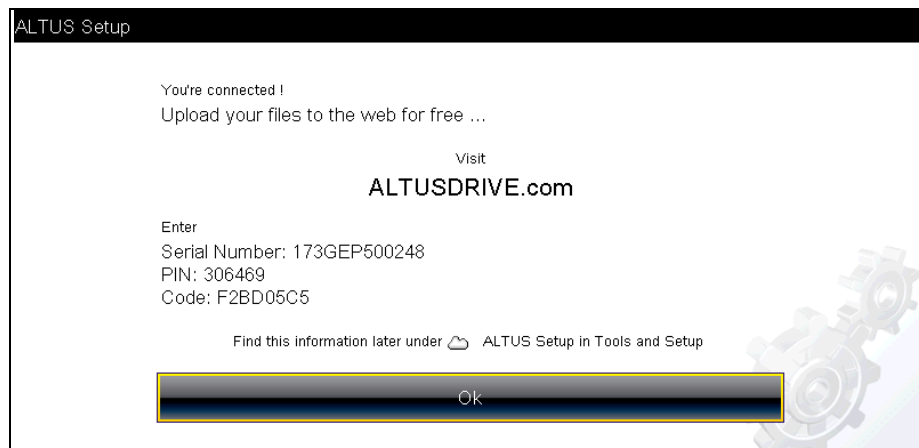
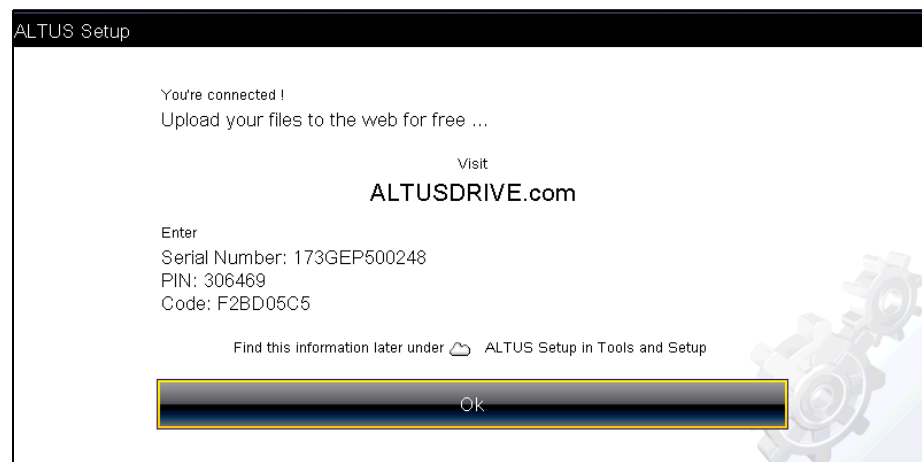
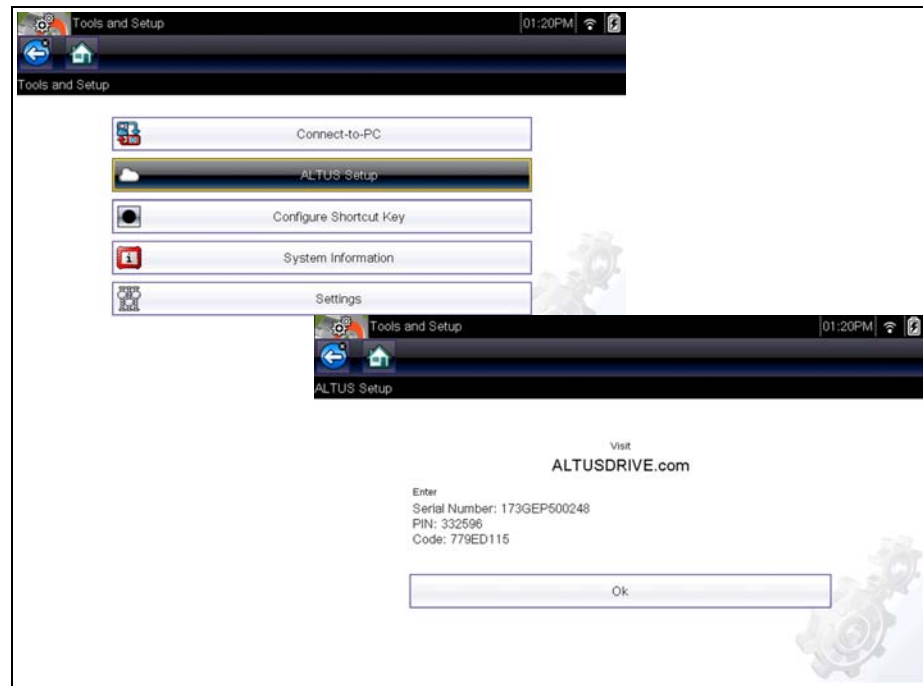

Figure 13-1
Figure 13-2
Figure 13-3
2. Write down the Serial Number, PIN and Code that are displayed when the device connects to the Wi-Fi network (Figure 13-1), or leave the screen displayed. Registration information can also be found in the Tools menu, see ALTUS Setup Information Screen, on page 167,.
The PIN and Code numbers will change each time you view the ALTUS Setup screens (Figure 13-1 and Figure 13-3). This is normal, any displayed set of PIN and Code numbers may be used to register on ALTUSDRIVE.com.
2. Write down the Serial Number, PIN and Code that are displayed when the device connects to the Wi-Fi network (Figure 13-2), or leave the screen displayed. Registration information can also be found in the Tools menu, see ALTUS Setup Information Screen, on page 167,.
The PIN and Code numbers will change each time you view the ALTUS Setup screens (Figure 13-2 and Figure 13-3). This is normal, any displayed set of PIN and Code numbers may be used to register on ALTUSDRIVE.com.
From the Home screen, selecting **Tools > ALTUS Setup** (Figure 13-3) allows you view the diagnostic tool serial number, PIN and Code needed to register on ALTUSDRIVE.com.
The PIN and Code numbers will change each time you view the ALTUS Setup screens (Figure 13-3 and Figure 13-1). This is normal, any displayed set of PIN and Code numbers may be used to register on ALTUSDRIVE.com.